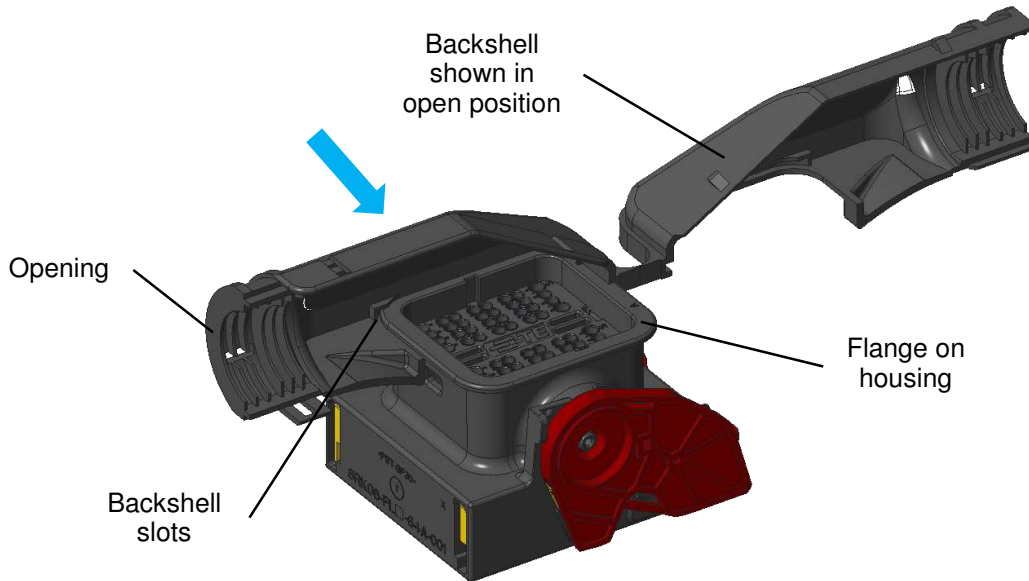
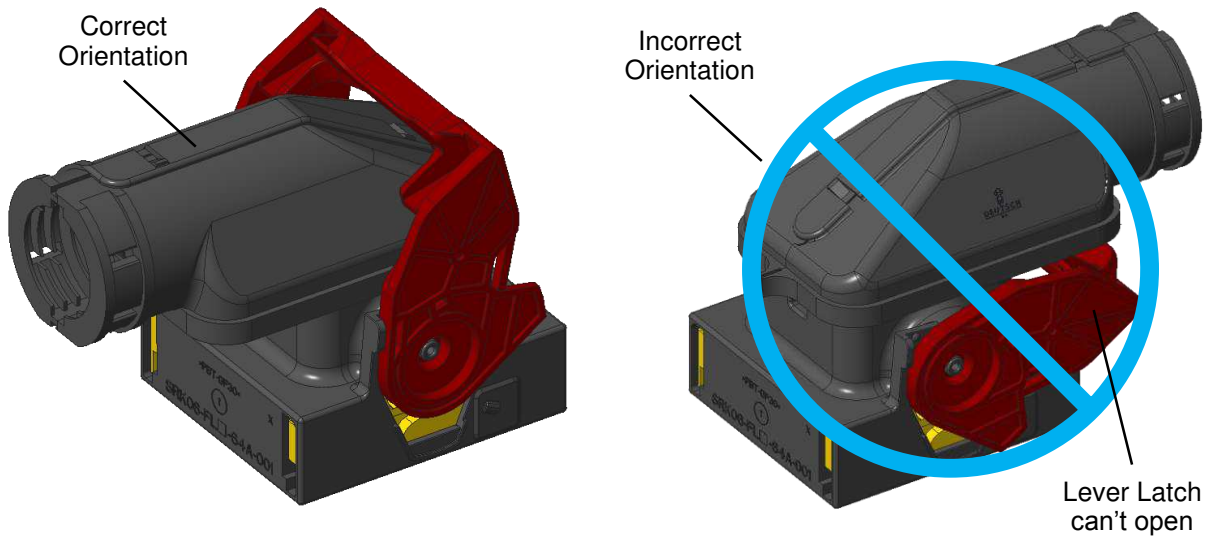

Figure 11
Figure 13
2. To install the backshell, it must first be in the open position as shown in Figure 11. The slots on the backshell will line up and fit onto the flange on the housing. Slide one half of the backshell onto housing as shown. Orientation of the opening is important on the plug housing as shown in Figure 13; backshells may be oriented as desired on receptacles. 64-way plug is shown as an example. Use the same method to install the backshell on all housings.